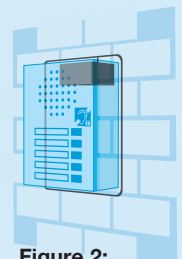

Figure 2: Door Intercoms
- **Smaller loop inside intercom case** (see figure 2)